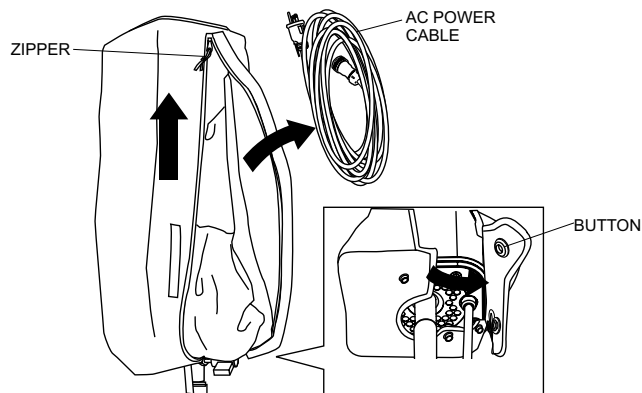

Figure 8. Removal of AC Power Cable from Balloon Cover
6. Unsnap the three buttons on the bottom of the balloon cover and unzip the cover. See Figure 8.